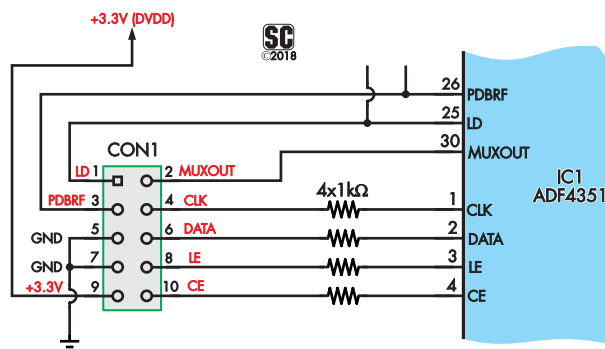

Fig.6: CON1 has been changed completely on the newer version of the ADF4351 module. Every signal, except for CLK, is connected to a different pin location.
1. Many of the connections to the 10-way pin header (CON1) have changed, as shown in Fig.6.